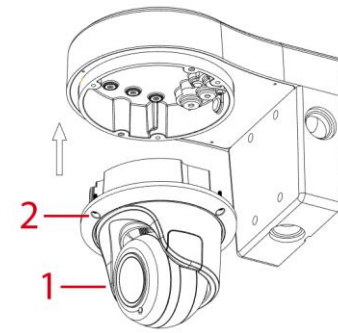
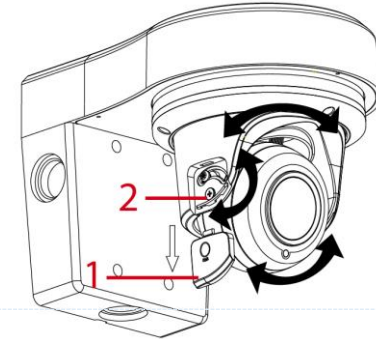

Figure 6
Figure 7
- G. Place the dome camera (1) (Fig. 6) into the camera bottom cover and using a Torx L-Key screw the dome camera to the bottom cover with the three M3x16mm screws (2) (Fig. 6).
- H. Remove the side cover (1) (Fig. 7), and loosen the screw (2) (Fig. 7) to adjust the lens tilt.
Note: You must loosen the three screws on the camera (2) (Fig. 6) to adjust the lens pan.
- I. Once the lens is positioned, retighten the screw (2) (Fig.7) and the three screws on the camera (2) (Fig. 6).